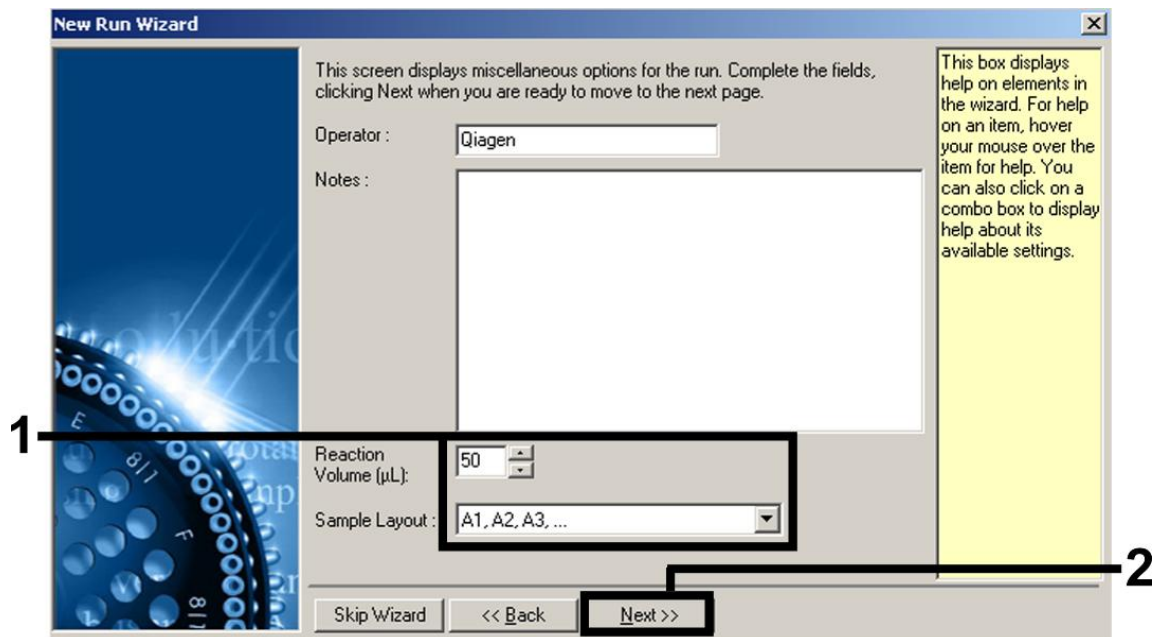

Figure 5. Setting the general assay parameters.
7. Select 50 for the PCR reaction volume and click “Next” (Figure 5).